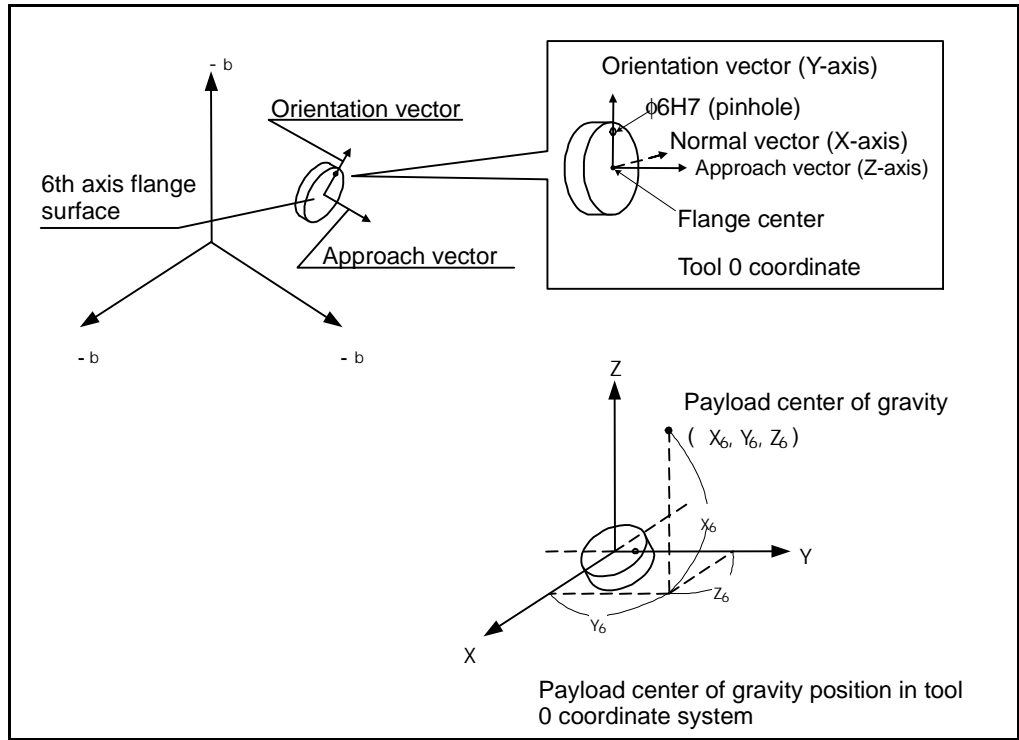
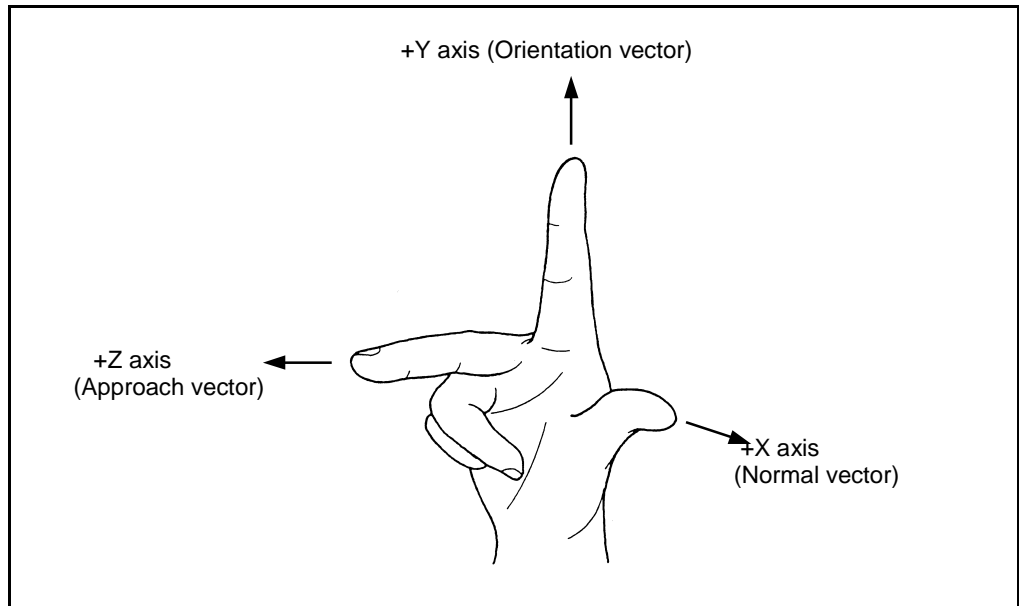

Fig. 4-9 Payload Center of Gravity
Fig. 4-10 Right-Hand Coordinate System
Note (2): Enter the payload center of gravity in the TOOL0 coordinates (refer to Fig. 4-9). The unit is mm. The reference position of the TOOL0 coordinates is the 6th axis flange center. The reference position of the TOOL0 coordinates is the center of the 6th axis flange. For component Y, it is the direction from the flange center to a pinhole of $\phi 6H7$ (orientation vector direction). For component Z, it is the direction vertical to the flange surface through the flange center (approach vector direction). For component X, it is the X-axis direction (normal vector direction) in the right-hand coordinate system when the orientation vector is set to the Y axis and the approach vector is set to the Z axis (refer to Fig. 4-10).
Note (2): Enter the payload center of gravity in the Tool 0 coordinate system (See Fig. 4-9). The unit should be mm. The origin of the Tool 0 coordinate system coincides with the center of the 6 axis flange, the Y component directs from the center of the flange to the $\phi 6H7$ pin hole (the direction of the orientation vector), the Z component passes through the center of the flange and is aligned with the normal of the flange face (the direction of the approach vector), and the X component is the X axis of a right hand coordinate system where Y axis is the orientation vector and the Z axis is the approach vector (See Fig. 4-10).